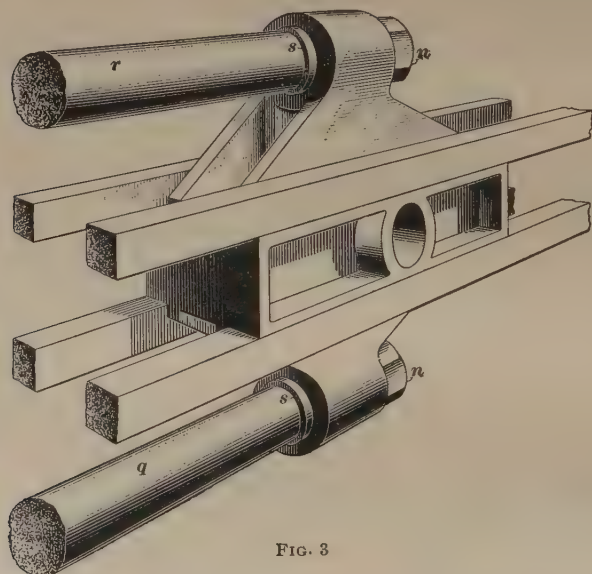

FIG. 3
20. The pistons that operate within the two cylinders are connected to the same crosshead, as shown in Fig. 3.